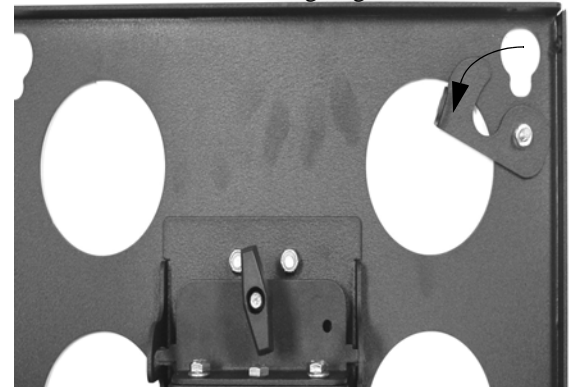

FIGURE 4. LOWER LATCH
2. Before lifting your flat panel display, make sure the latch of the PWS is lowered and will not interfere with mounting the plasma (see Figure 4).